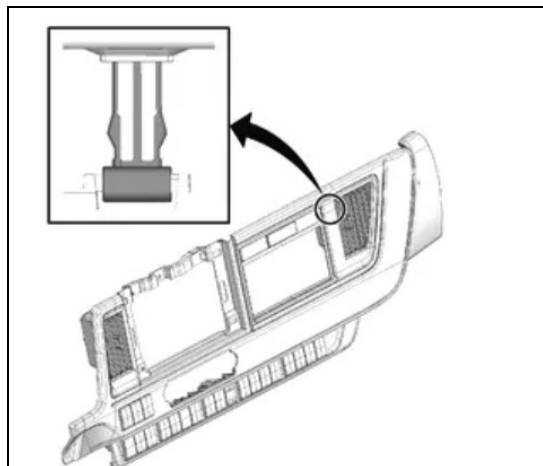

Figure 17
17. Use needle nose pliers to squeeze the white plastic clip at the location shown in Figure 17 and pull the center cluster away from the instrument panel.